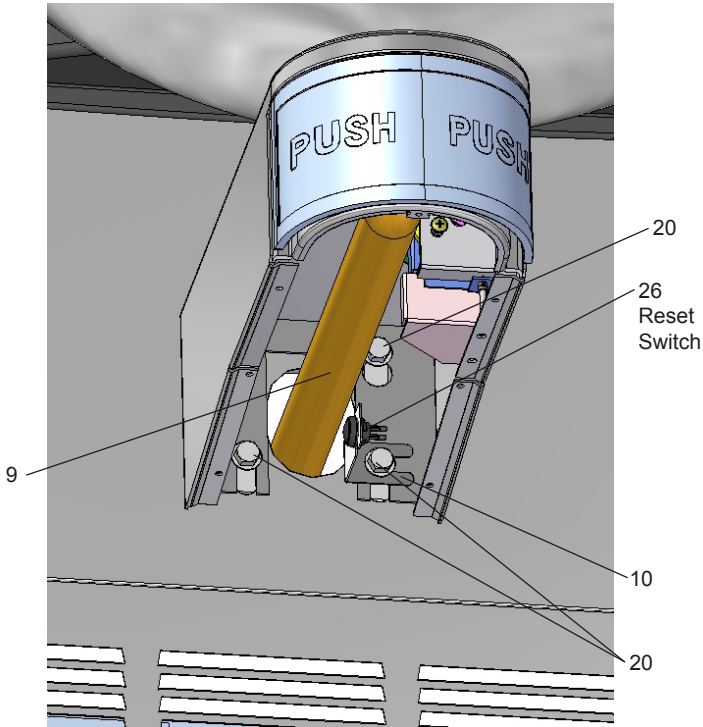

Figure 4 - Fountain Installation
7. **Install** fountains with (8) 5/16-18 HHMS (provided) (Fig 4). Connect the 1/4" water lines from each fountain to the remaining openings on the tee at the remote chiller (cut lines to fit as needed), (Test fit refrigerated panel to make sure there is a tight joint between it & the main panel before fully tightening mounting screws.
8. **Install** reset switch and mating bracket on lower fountain (lower right bolt) for bottle filler (Fig 4). Connect the switch wire to the extension wire on the back of the bottle filler. Wrap up the excess cord.